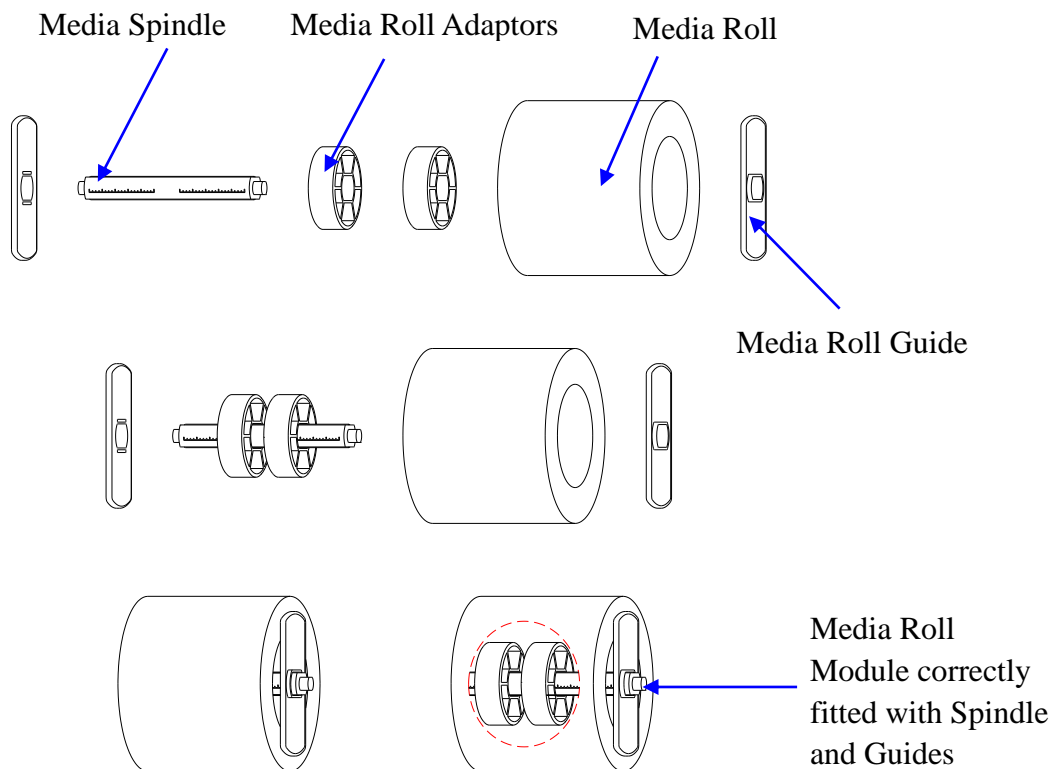

Figure 2-14 Place Media Roll on Media Spindle
1. Pull the retractable media stand outwards until an audible click is heard, as shown in Figure 2-14.
Guides, with smooth sides facing toward the media, onto the Media Spindle from each end until both Media Roll Guides touch the media. When placing a roll of media with a 3" ID core, please slide the two Core Adapters onto the Media Spindle first, as shown in Figure 2-14.